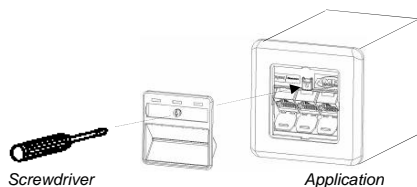

Fig. 8
5.5 Place the 50x50 outlet on the frame and fix it with the screw to the mounting frame (fig. 8).